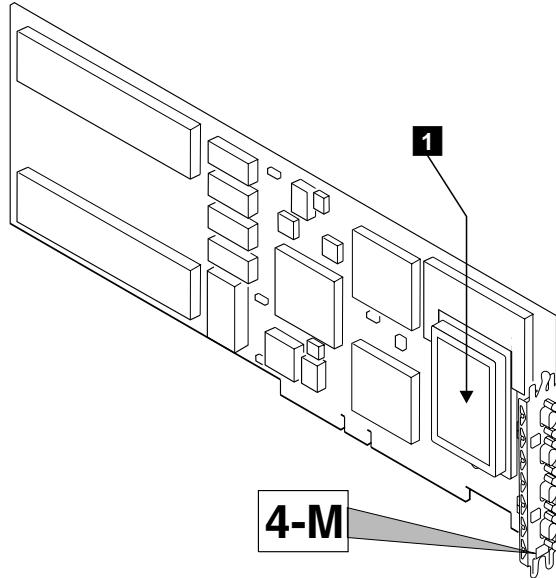
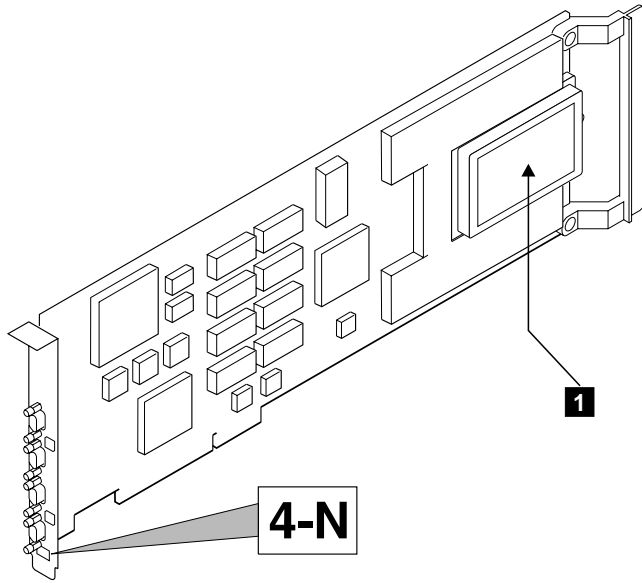

Figure 22. The SSA Fast-Write Option Card Installed on a Micro Channel SSA Multi-Initiator/RAID EL Adapter
Figure 23. The SSA Fast-Write Option Card Installed on a PCI SSA Multi-Initiator/RAID EL Adapter
2. Refer to Figure 22 and to Figure 23 to identify the Fast-Write Cache Option card **1** on the type of adapter card that you are servicing.